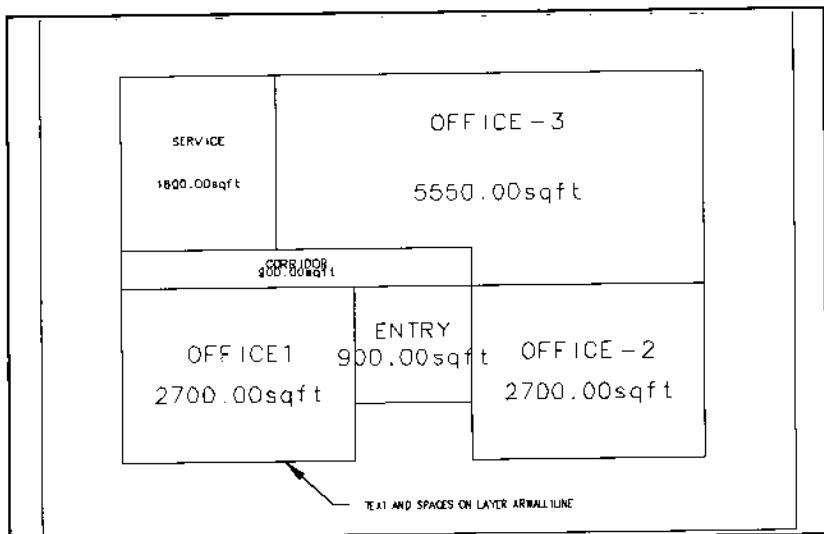
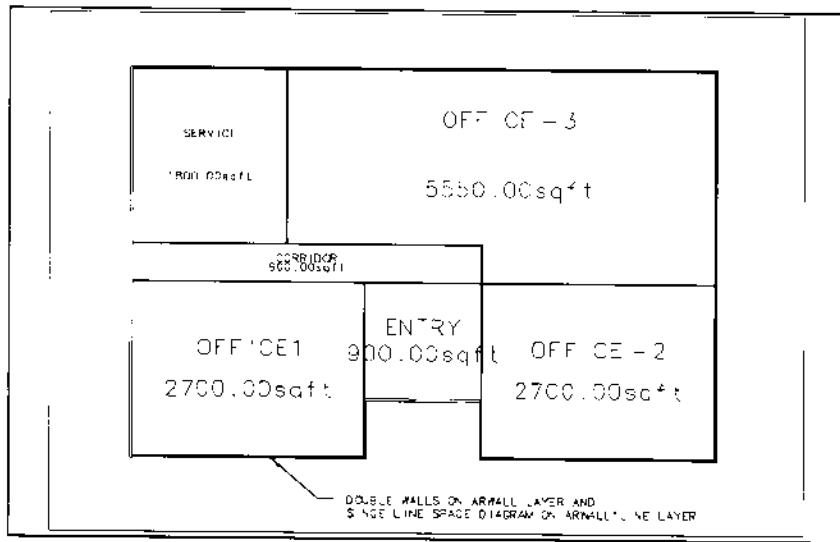

Figure 4.
Figure 5.
8. The AutoCAD drawing screen opens a new drawing named SESSION2, which is a copy of the SESSION1 drawing file with the architectural module loaded as shown in Figure 4. We will use the Space to Wall command to change the single lines to double line walls as shown in Figure 5.